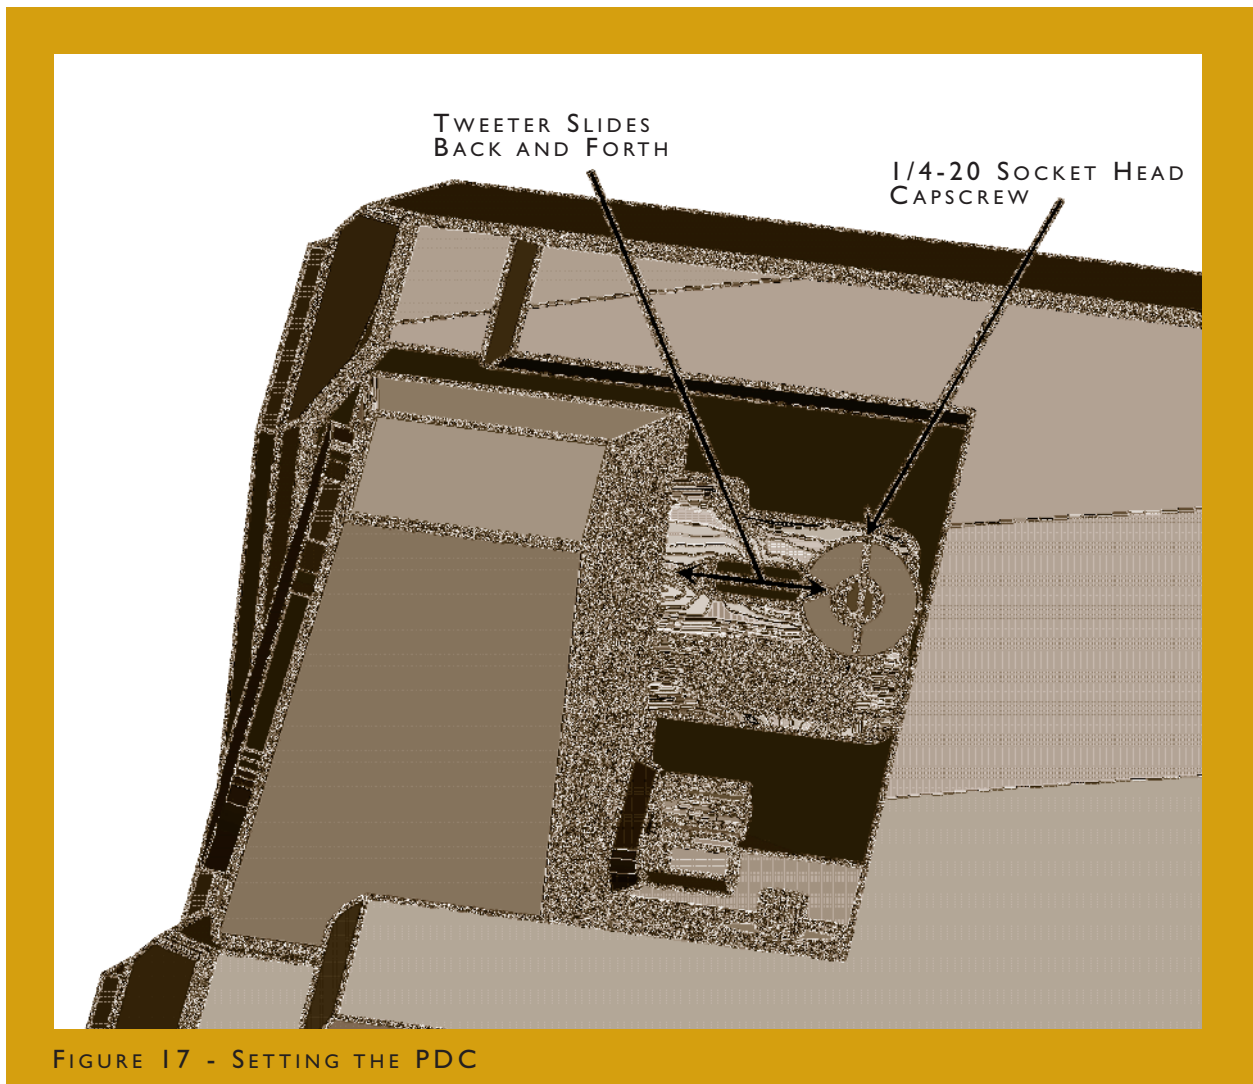

FIGURE 17 - SETTING THE PDC
4. Using a 3/16" Allen wrench, loosen the 1/4"-20 socket head on tweeter assembly (see Figure 17 below).